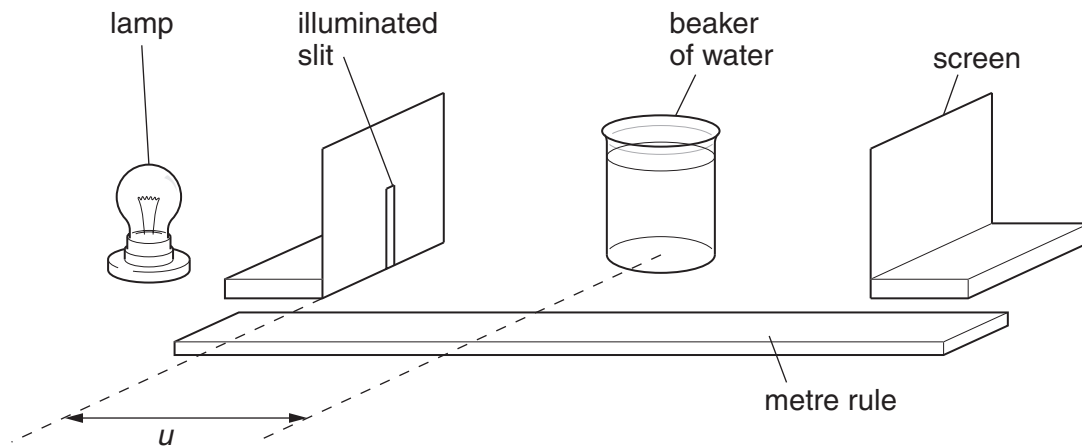

Fig. 1.2
- (iv) The **candidate** is to set up the apparatus as shown in Fig. 1.2.